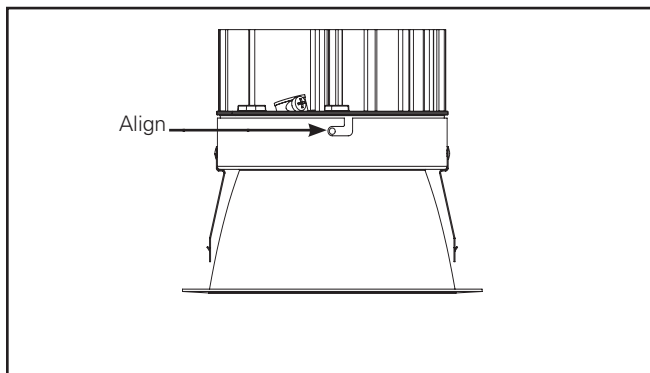

Figure 8.
5. Insert LED engine into lower trim. Align LED engine screw holes with lower trim screw slots (Figure 8.).